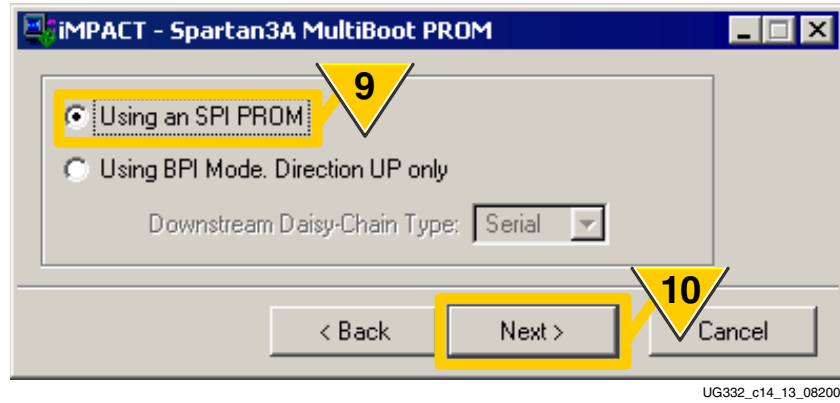

Figure 14-14: SPI or Parallel Flash PROMs are Supported
- As shown in Figure 14-14, choose whether to create an Extended Spartan-3A family MultiBoot image for SPI serial Flash or for parallel NOR Flash, using BPI mode. This example uses an SPI PROM.